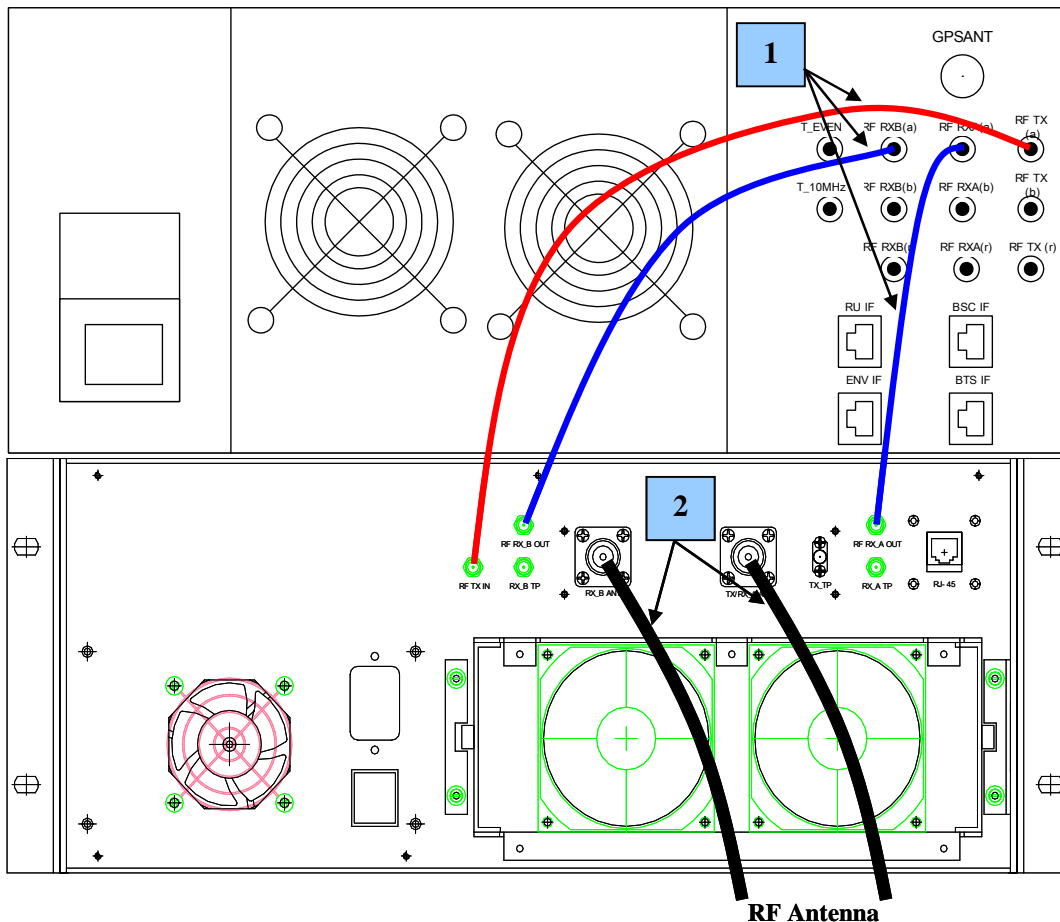
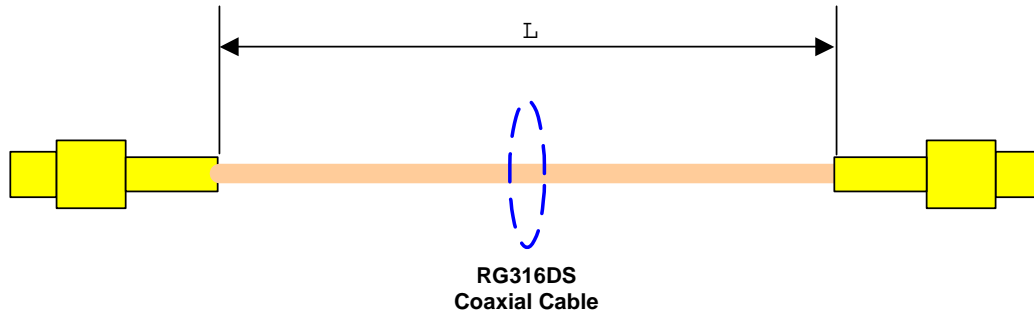

Figure 6-1 Integrated Omni RU RF Cabling Diagram
Figure 6-2 AW-96 to RU RF Cable Specification
The AW 96 transmitter exciter output and diversity receiver inputs are connected to the RU which contains the duplexer, LNA and HPA functions. Connect using jumper cables as shown in Figure 6-1 (1). Use suitable cables as provided with the AW 96 system and shown in figure 6-2.
Connect external diversity antenna systems as shown in Figure 6-1 (2). External antenna connectors are “N-Type”.